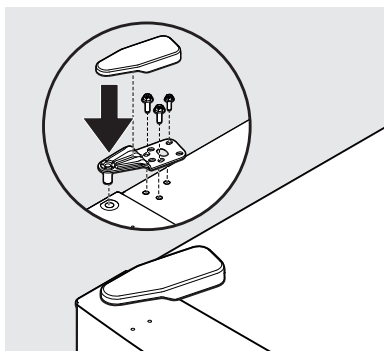

Figure 9
- Using a Phillips™ screwdriver or a 5/16" wrench, secure the top hinge using three 5/16" screws. Replace the top hinge cover (see Figure 9).